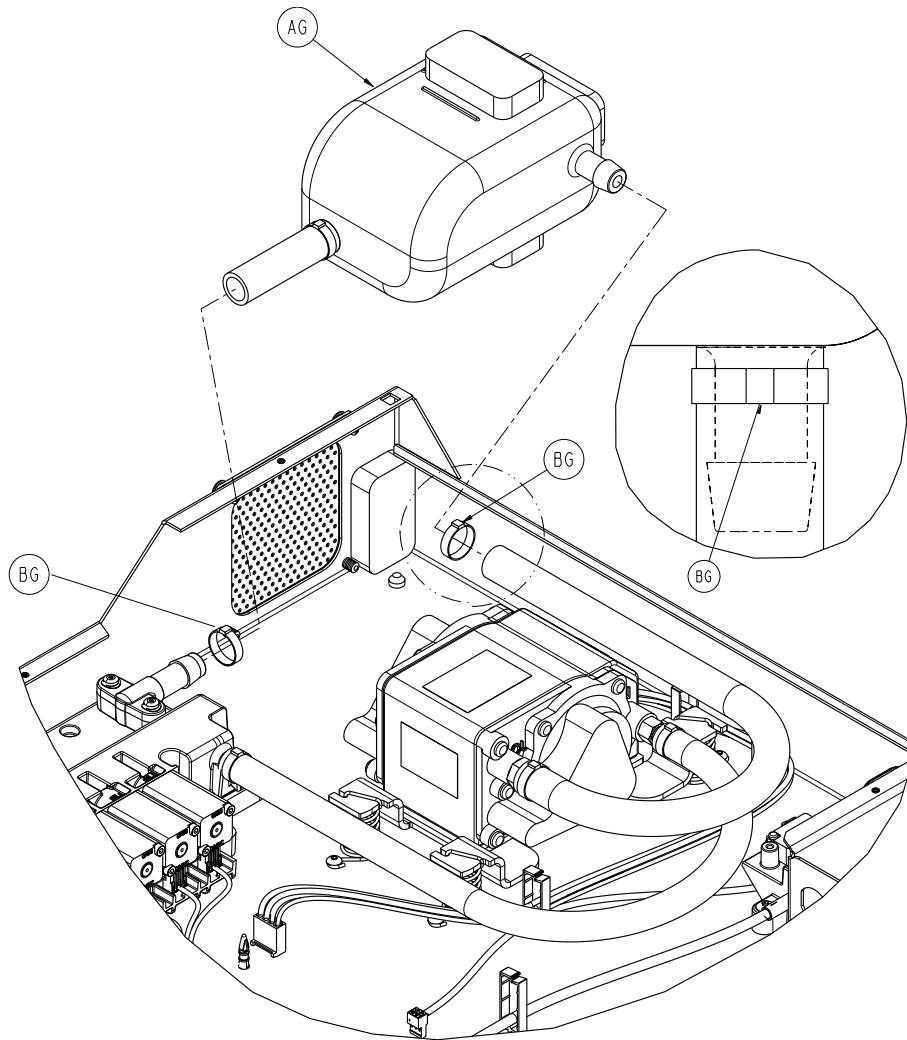

Figure 1-31: Resonator
2. Using diagonal pliers, cut the cable ties (BG) from the inlet and outlet hoses of the resonator and discard the cable ties (Figure 1-31 on page 1-59).
3. Pull to disconnect each of the hoses from the resonator (AG) and the manifold (Figure 1-31 on page 1-59).